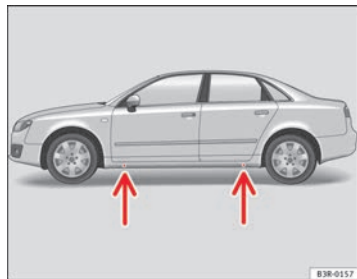

Fig. 180 Changing the wheel: Jack position points
- Position the vehicle jack under the door sill at the **jacking point** closest to the wheel being changed ⇒ **fig. 180 -arrows-**.
Recesses at the front and rear of the door sills mark the jacking points ⇒ **fig. 180 -arrows-**. There is only *one* jacking point for each wheel. Do not fit the jack anywhere else.